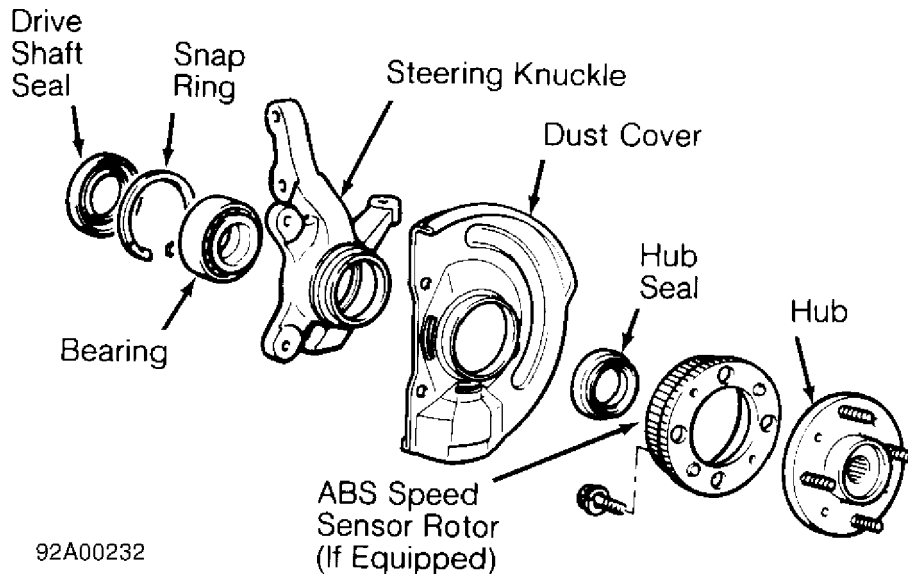

Fig. 8: Exploded View Of Steering Knuckle & Hub (All Except Colt, Colt 200, Mirage, Precis & Summit)
2) Remove oil seal from hub. Remove drive shaft seal from steering knuckle. See Fig. 8. Remove snap ring from knuckle. Using press, Bearing Remover/Installer (C-4628) and Knuckle Bridge (MB991056), remove bearing from knuckle.